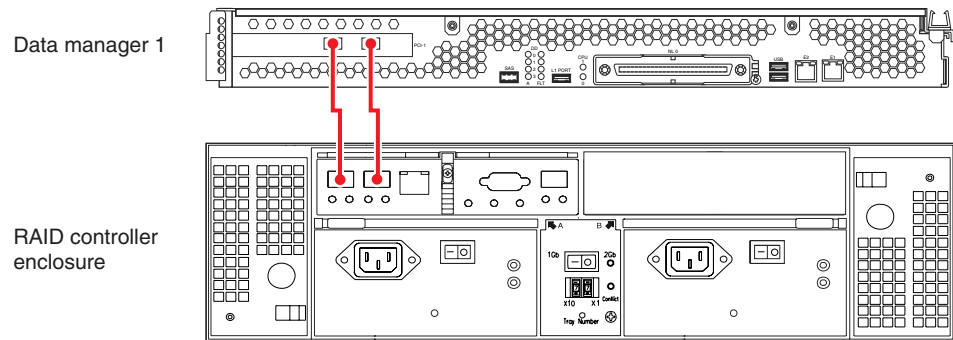

Figure 1-4 One Data Manager One Controller Enclosure (Single RAID Controller)
Use the following steps and Figure 1-4 to cable a one-module data manager to a single-controller RAID enclosure.
1. Connect the Data Manager's Fibre Channel PCI card port A (blue label [1A]) to the RAID controller's host 1 (blue label [1A]) port in the controller enclosure, see Figure 1-4.